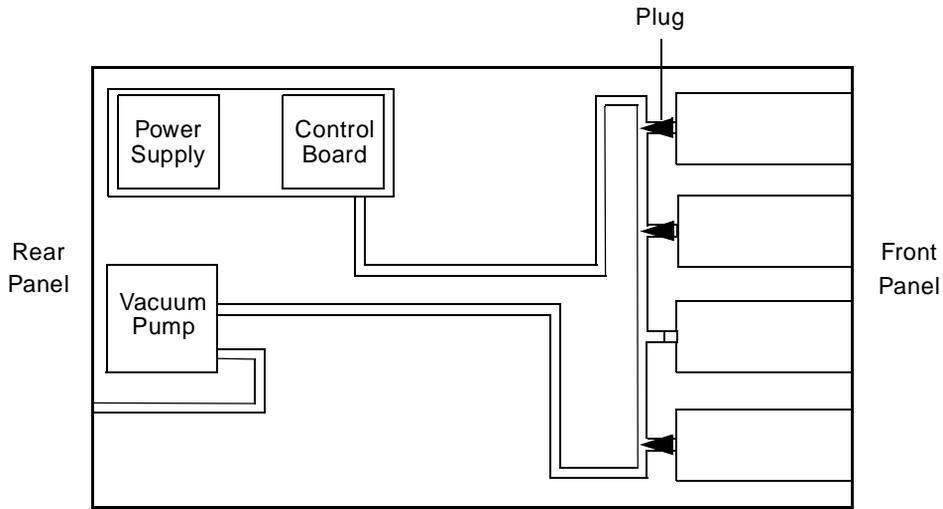

Figure 5-6 Vacuum Connections to Test a Vacuum Chamber
4. Identify the vacuum chamber you want to test, then disconnect the remaining vacuum chambers from the vacuum manifold. Plug the open ends of the vacuum manifold with wooden pencils or other tapered objects as shown in Figure 5-6.